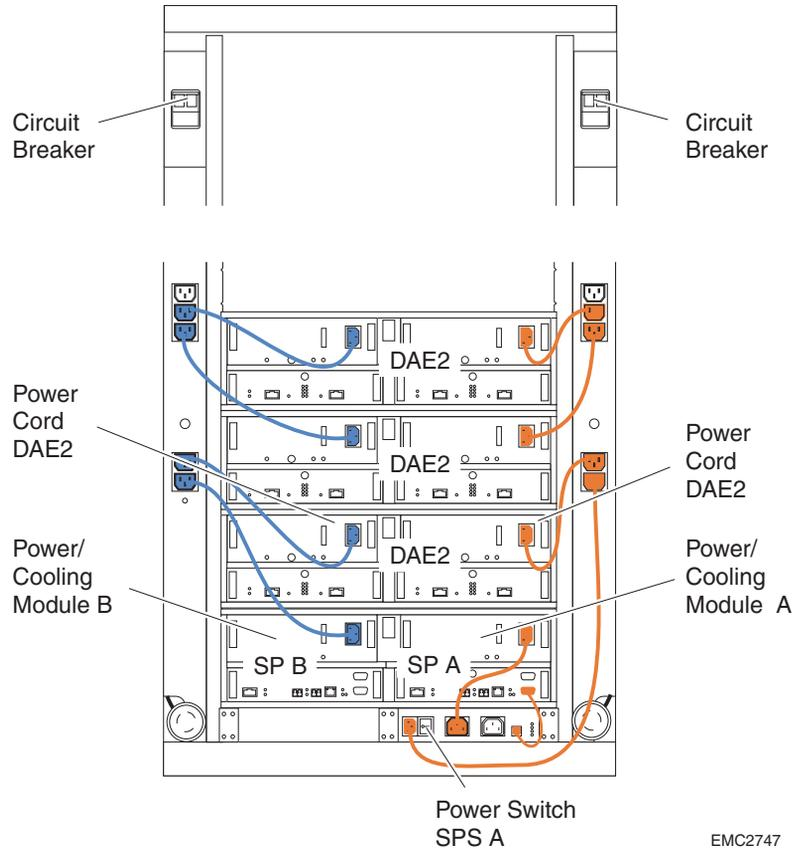

Figure 2-16 Powering Down a CX300-Series System with SPS (ac Power)
3. Use the power switch on each SPS to turn off power to the CX300/CX300i DPE2 and any other device connected to the SPS. See Figure 2-16.